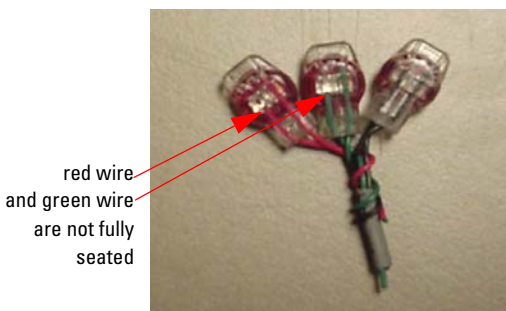

Figure 4 Improper Connections
- 4 Check to ensure that the wires are still fully seated in the connector before crimping the connector. Figure 4 illustrates improper connections due to wires not fully seated.